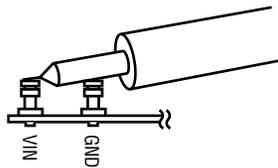

Figure 2. Measuring Input or Output Ripple
NOTE: When measuring the input or output voltage ripple, care must be taken to avoid a long ground lead on the oscilloscope probe. Measure the input or output voltage ripple by touching the probe tip directly across the V_{IN} or V_{OUT} and GND terminals. See the proper scope probe technique in figure 2.
5. Set the load current of both outputs to 600mA and the input voltages to 12V, and then measure each output ripple voltage (refer to figure 2 for proper measurement technique); they should each measure less than 20 mVAC. Also, observe the voltage waveform at either switch node (pin 5 for reg. 1 and pin 8 for reg. 2) of each regulator. The switching frequency should be about 2.25MHz $\pm 20\%$ (period between 370ns and 555ns). Both switch node waveforms should be rectangular in shape, and 180° out-of-phase with each other.